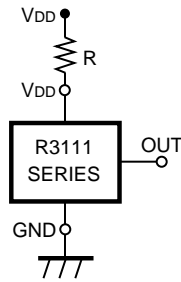

Figure 9
1. In Figure 9, When R3111xxx1C is used, and if an impedance is connected in between Voltage Supplier and the VDD Pin of R3111xxx1C Series, the operation might be unstable by through-type current at detection.
When R3111xxx1A is used in Figure 9, if the value of R is set excessively large, voltage drop may occur caused by supply current of IC itself and Detector threshold may vary.